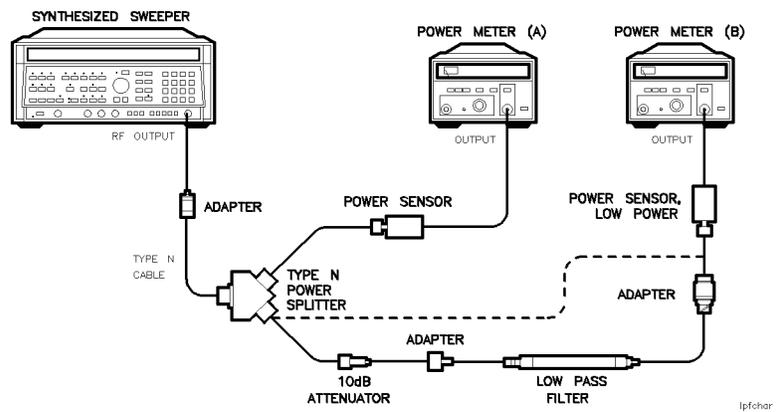

Figure 2-12. LPF Characterization
3. Connect the equipment as shown in Figure 2-12. Connect the low-power power sensor directly to the power splitter (bypass the LPF, attenuator, and adapters). Wait for the power sensor to settle before proceeding with the next step.
4. On the power meter (A), press the dB REF mode key. The power indication should be 0 dB.
5. On the power meter (B), press the dB REF mode key. The power indication should be 0 dB.
6. Connect the LPF, attenuator, and adapters as shown in Figure 2-12.
7. Record the power meter (A) reading in dB in the worksheet as the Mismatch Error. This is the relative error due to mismatch.
8. Record the power meter (B) reading in dB in the worksheet as the Uncorrected Insertion Loss. This is the relative uncorrected insertion loss of the LPF, attenuator and adapters.